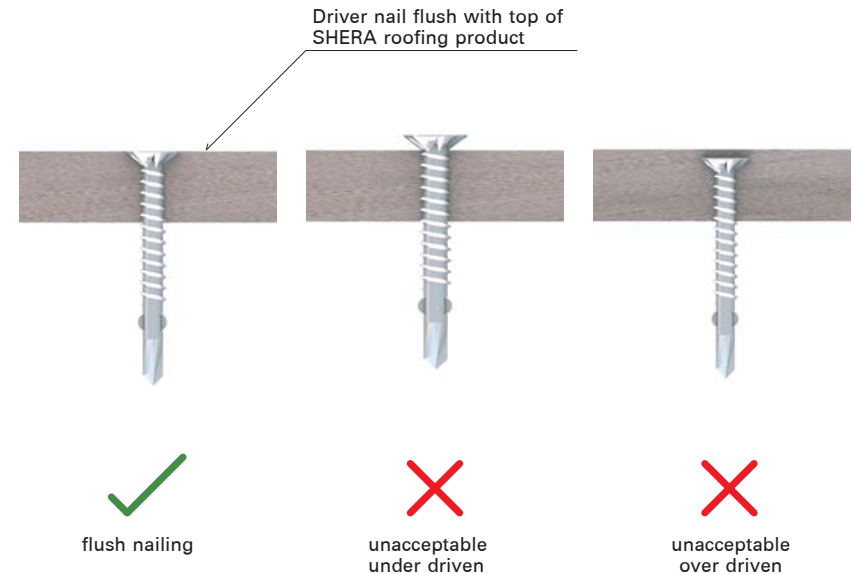

Figure 2 : Screw Fastener
- Screw should not be over or under driven as it will reduce holding strength of the sheet. See figure 2 for recommended application.